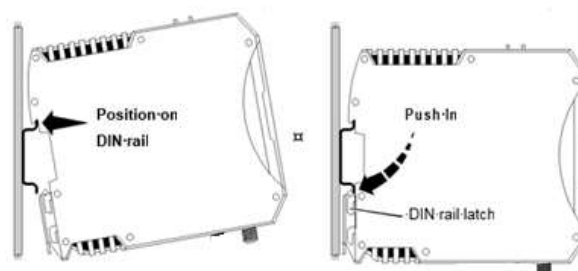

Figure 5: Installing AWIN GW100 on the DIN rail
1. Attach the AWIN GW100 to the mounting rail by positioning the keyway at the top of the module onto the mounting rail (see Figure 5). Then rotate the module inward until the DIN rail latch locks the module in place on the rail. Next, check that the module is fixed securely to the rail by lightly pulling outward on the module.